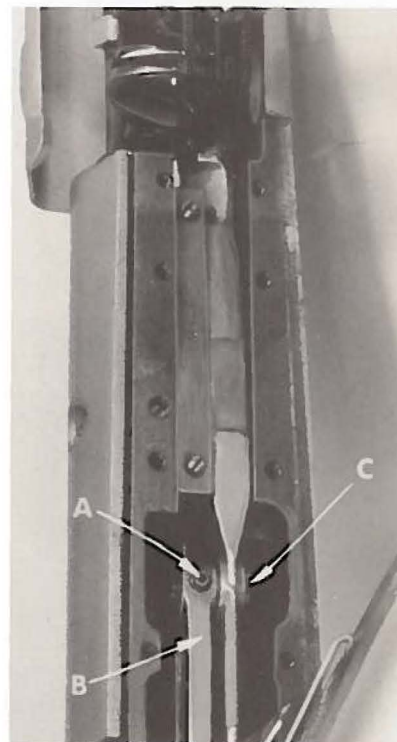

Fig. 6
The feed dog should have equal clearance at both ends of its travel in the throat plate. Adjustment can be made by loosening set screw (A, Fig. 6) in feed bar driving link (B), rotate feed bar eccentric driving stud (C) as required, retighten set screw (A). Whenever the position of feed bar eccentric driving stud has been changed, recheck the rear needle guard setting.